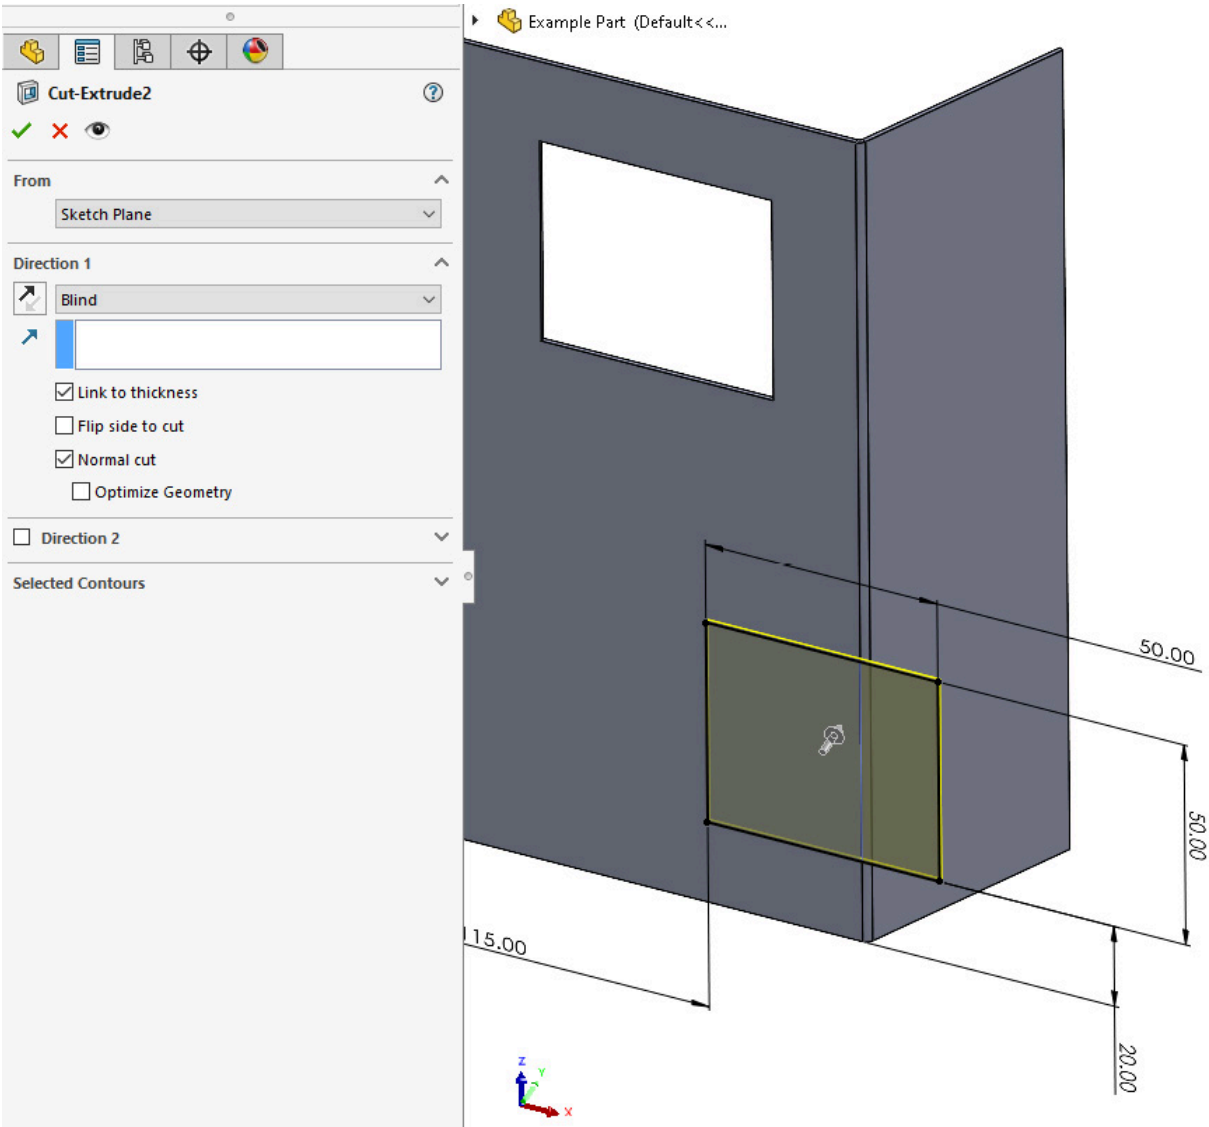

Figure 3.4: A cut that is linked to thickness will only go through the sheet that it is made on
4. Use the sketch to create an Extruded Cut and select the **Link to thickness** option. Notice in *Figure 3.4* that the yellow preview only cuts through the thickness of the **Base Flange** sheet. That is, the cut only goes through the sheet that the initial profile was sketched on; it doesn't cut through the angled **Edge Flange**: